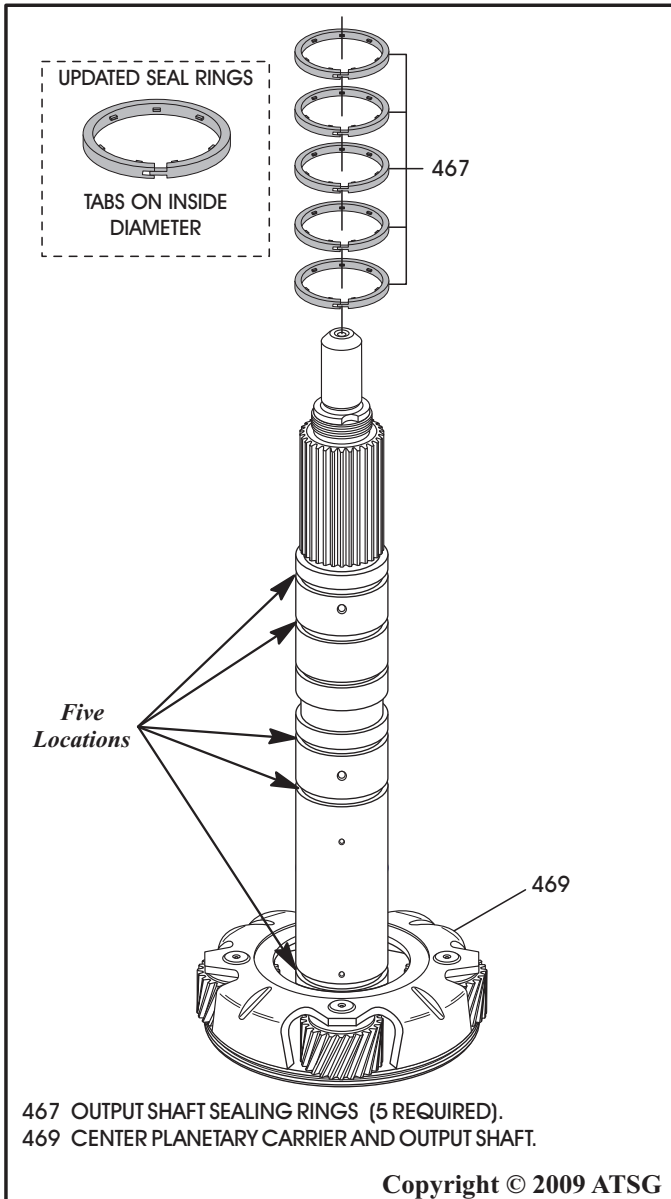

Figure 144
44. Position the center planetary carrier and output shaft, as shown in Figure 144.
45. Install five new updated output shaft sealing rings into the five grooves of the output shaft, as shown in Figure 144.